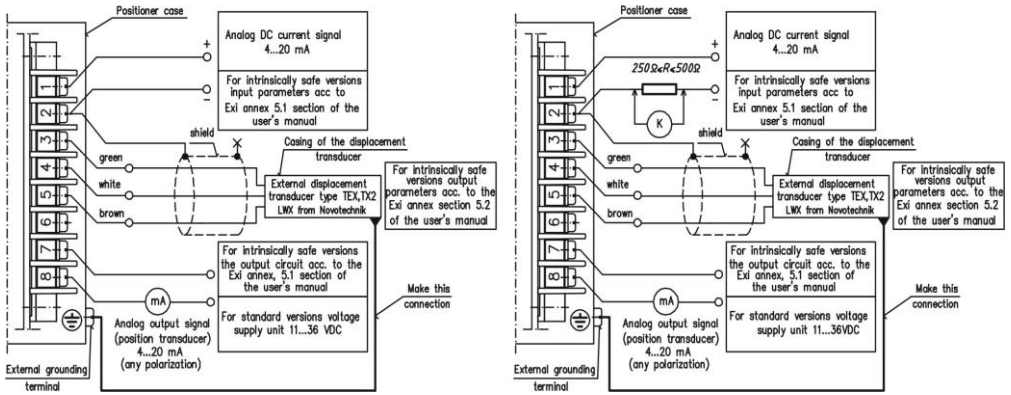

Fig. 19b Wiring position for executions with an external displacement transducer if:
- If the second terminal of the shield of the cable is separated from potentiometer's case (Fig.19b) then it is recommended to connect positioner's and potentiometer's cases by means of external wire.